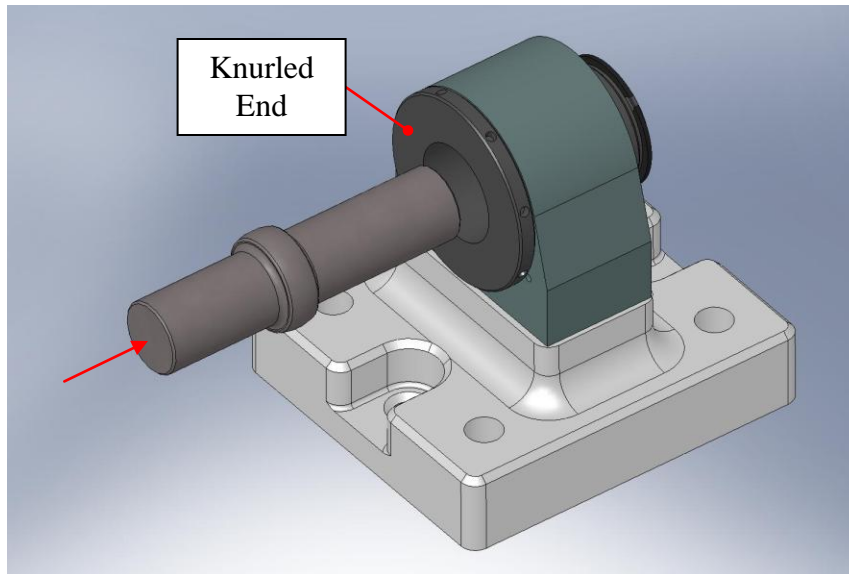

Figure 2.16. Spherical Pin being inserted into Locker Sleeve.
- Insert **Spherical Pin** (20007935) into **Locker Sleeve**, as shown in Figure 2.16. *Orientation is critical: short end of Pin should stick out of knurled end of Sleeve.*